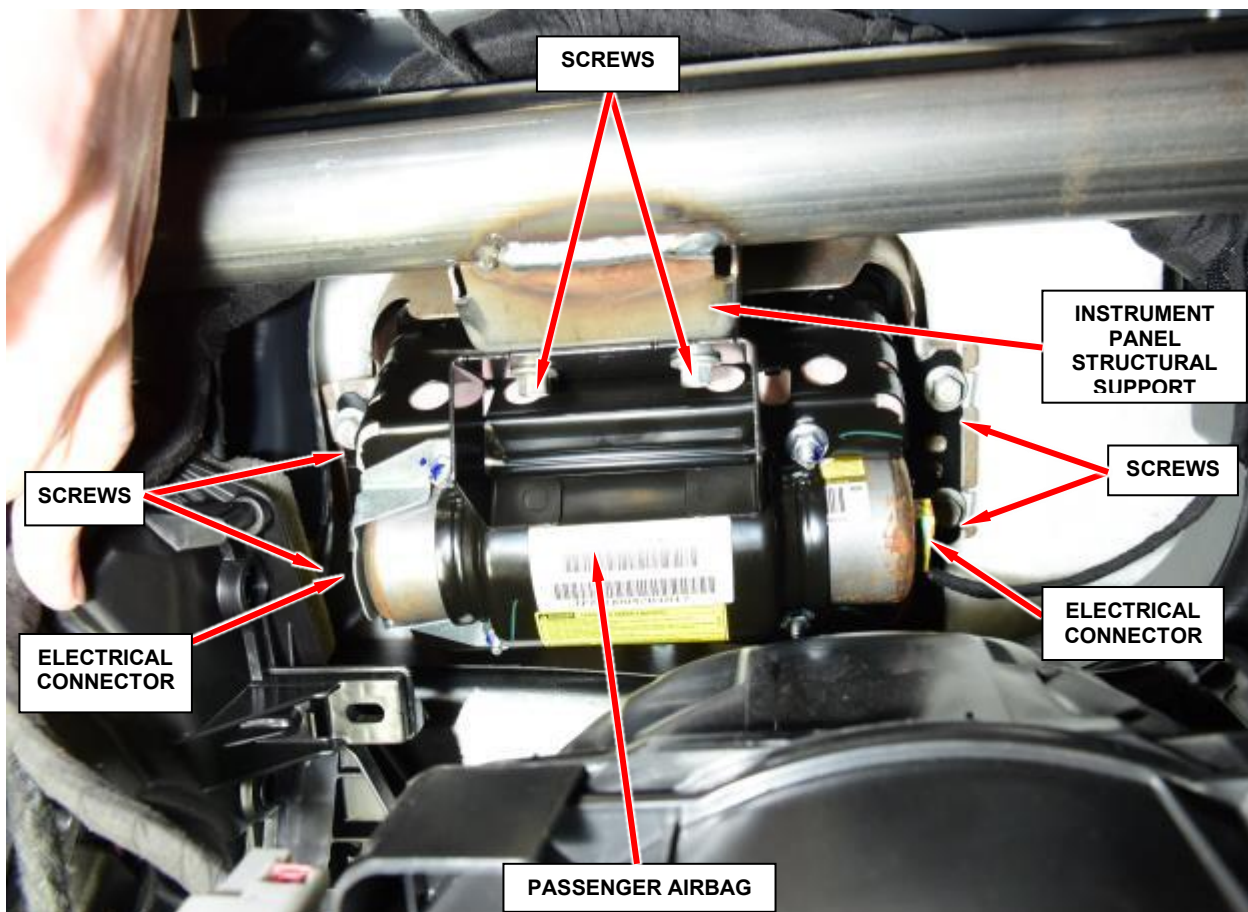

Figure 12 – Passenger Airbag
11. Reach through the instrument panel glove box opening to access and disconnect the two instrument panel electrical connectors from the two Passenger Airbag (PAB) initiators, one at each side of the PAB inflator canister (Figure 12).
12. Reach through the instrument panel glove box opening to access and remove and save the two screws that secure the PAB lower bracket to the instrument panel structural support (Figure 12).
13. Remove and save the four screws that secure the two upper PAB mounting brackets to the U-nuts on each side of the PAB retainer or chute on the underside of the instrument panel cover (Figure 12).